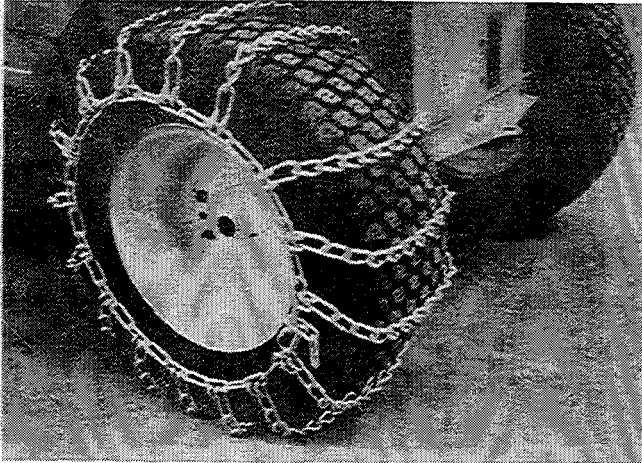
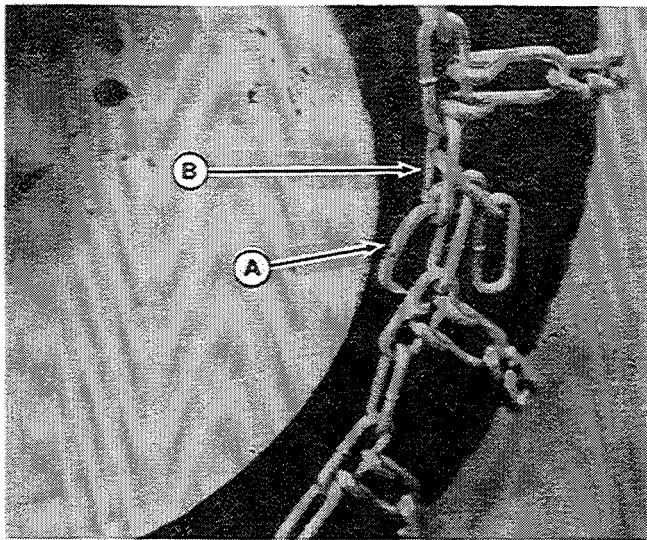

Figure 24. Installed Chain
Figure 25. Chain Links - Closeup
5. Pull the chain over the top of the tire until side chains are tight and cross chains are positioned as shown in figure 24.
7. The fastener must be connected so that the chain has a snug fit on the tire as shown in figure 24. A closeup of the fastener connection is shown in figure 25. Insert the fastener thru the appropriate end link and then hook it to the chain as shown in figure 25. A pair of pliers can be used to assist in connecting fastener.